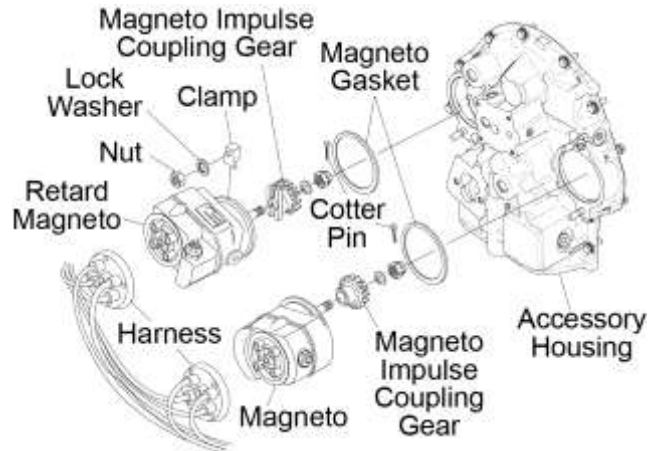

Figure 11
- (1) Disconnect the harness (Figure 11) from the magneto to be removed.
- (2) Hold the magneto and remove the two nuts, two lock washers and two clamps from the magneto. Discard the lock washers.
- (3) Remove the magneto.
- (4) Remove and discard the gasket.